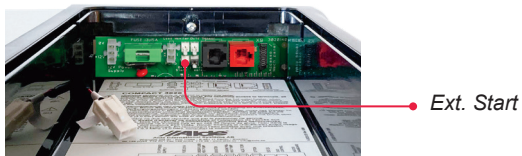

fig. 4
5. The connector with green and yellow wire is connected with the supplied extension cable (fig. 1, F). The cable is then connected to the Ext. Start switch (fig. 4) and indicates whether the filter is active on the control panel during water flow from the water pump.